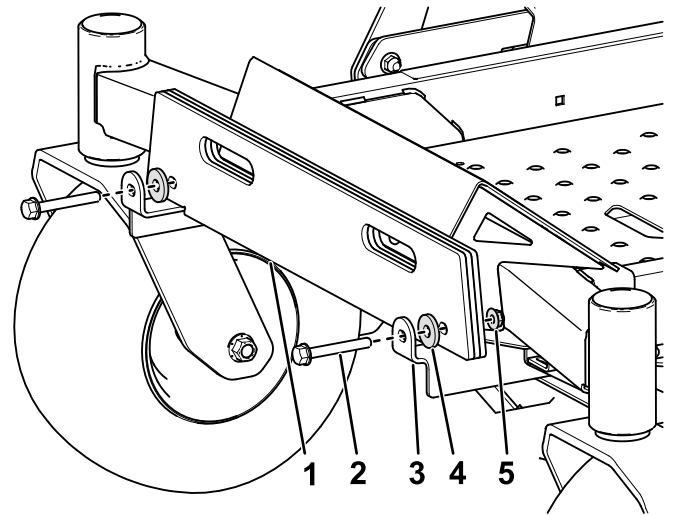

Figure 4
2. Install the suitcase weights (amount determined by deck size) to the weight mounting brackets using 2 bolts (3/8 x 2-3/4 inches), 2 washers, and 2 locknuts (3/8 inch) as shown in Figure 4.